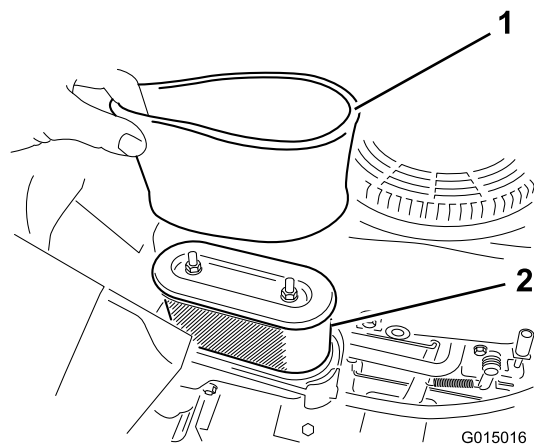

Figure 30
5. Carefully remove the foam and paper filter elements from the air-cleaner housing (Figure 30).
1. Install the foam filter onto the paper filter (Figure 30).